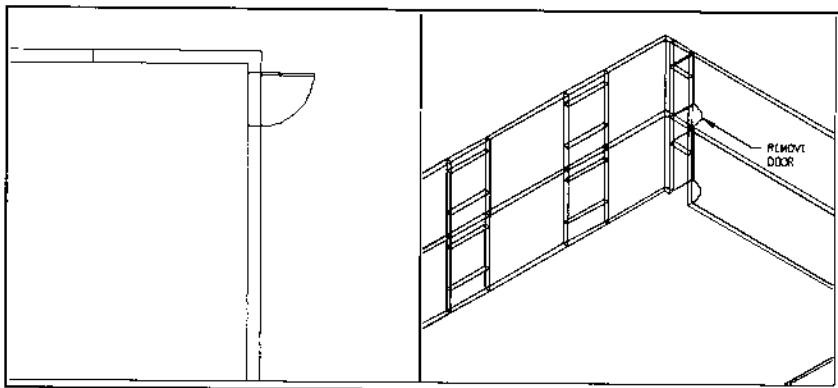
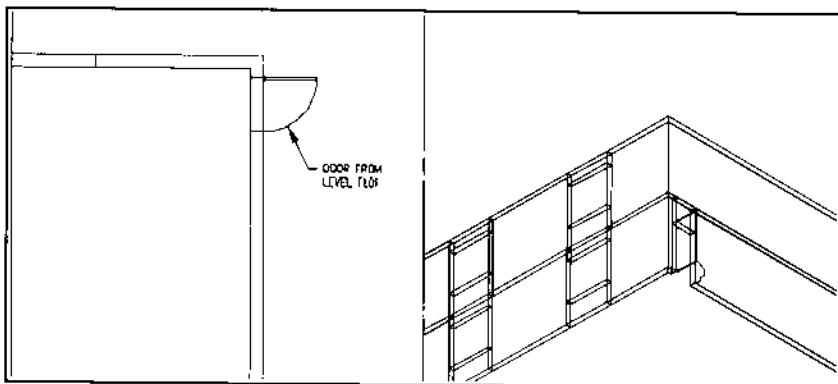

Figure 17.
Figure 18.
2. Zoom into the back corner of the building as shown in Figure 17 and remove the rear exit door.
3. Select the Remove command from the Door/Window submenu under the Tools pull-down menu. Pick the door to be removed. Figure 17 shows the door at level FL02 before removal, and Figure 18 after removal.
- > Select windows and doors to remove: [**select rear exit door at upper left corner of plan as shown in Figure 17**]